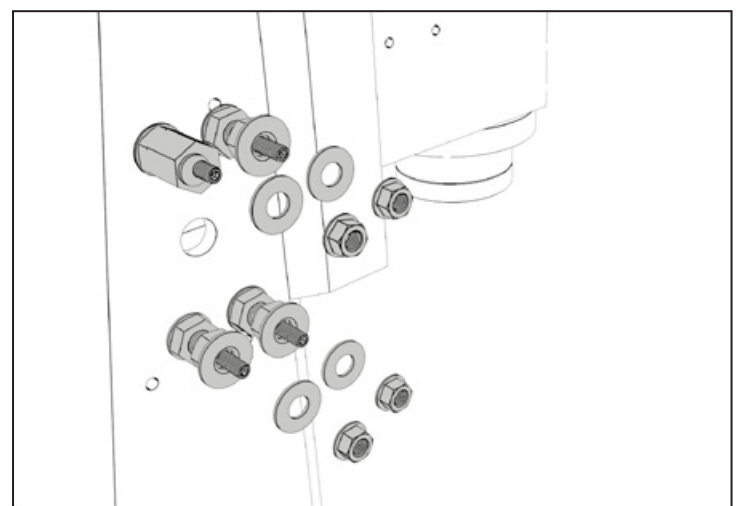

Figure 7
5. From each standoff, remove the flange nut and the washer (see **Figure 7**). Set aside all flange nuts and washers.